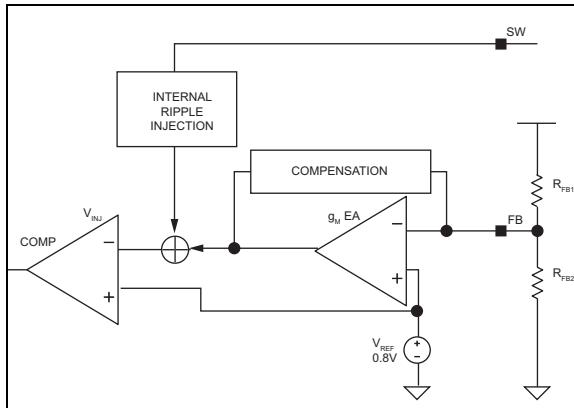

FIGURE 4-1: Output Voltage Sense via FB Pin.
Figure 4-1, in association with Equation 4-1, shows the output voltage is sensed by the MIC45116 feedback pin (FB) via the voltage divider R_{FB1} and R_{FB2} and compared to a 0.8V reference voltage (V_{REF}) at the error comparator through a low-gain transconductance (g_m) amplifier. If the feedback voltage decreases, and the amplifier output falls below 0.8V, then the error comparator will trigger the control logic and generate an ON-time period. The ON-time period length is predetermined by the Fixed t_{ON} Estimator circuitry: